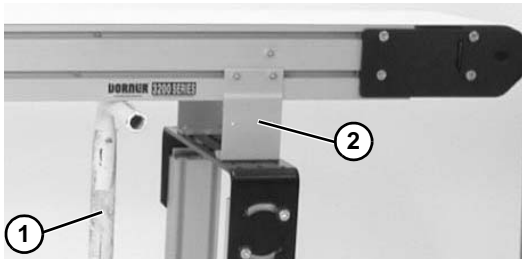

**Figure 45**
4. On tension end of the conveyor, identified by the pinion access slot (**Figure 45, item 1**), loosen the two tail clamp bolts (**Figure 45, item 2**) on both sides of the conveyor and push head plate assembly (**Figure 45, item 3**) inward.